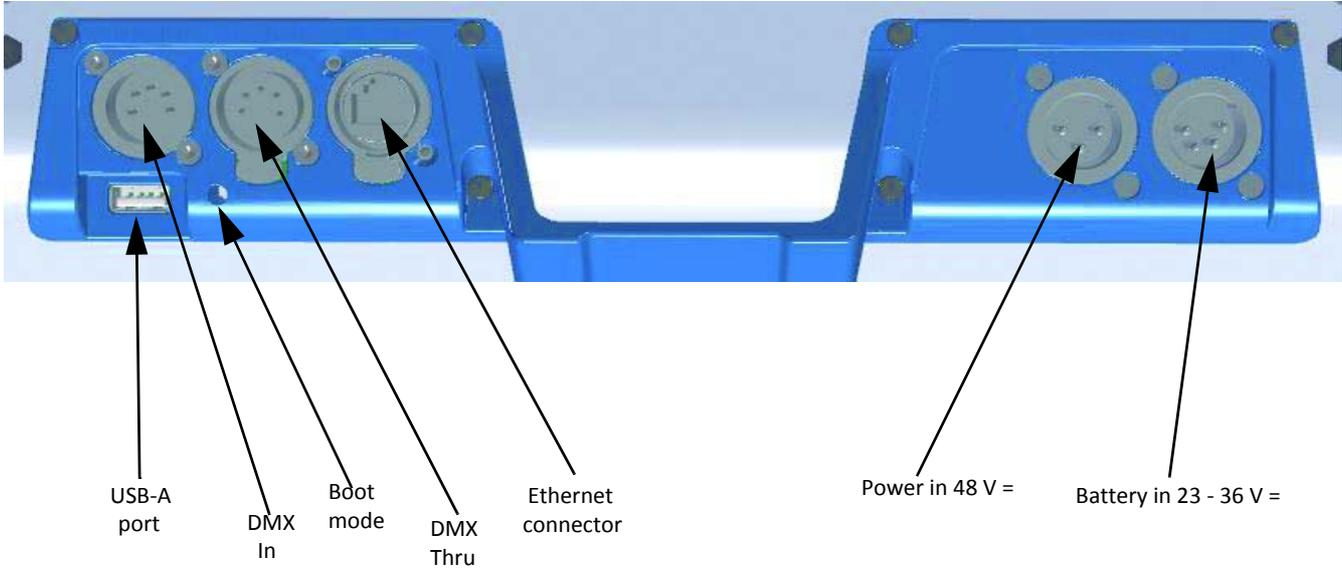

Figure 3: Connector panel
- Line up the keyway of the female cable connector and the raised key of the 48 V DC power in socket of the product (see Figure 3 on page 18). Insert the cable connector without force in the power in socket until it locks.